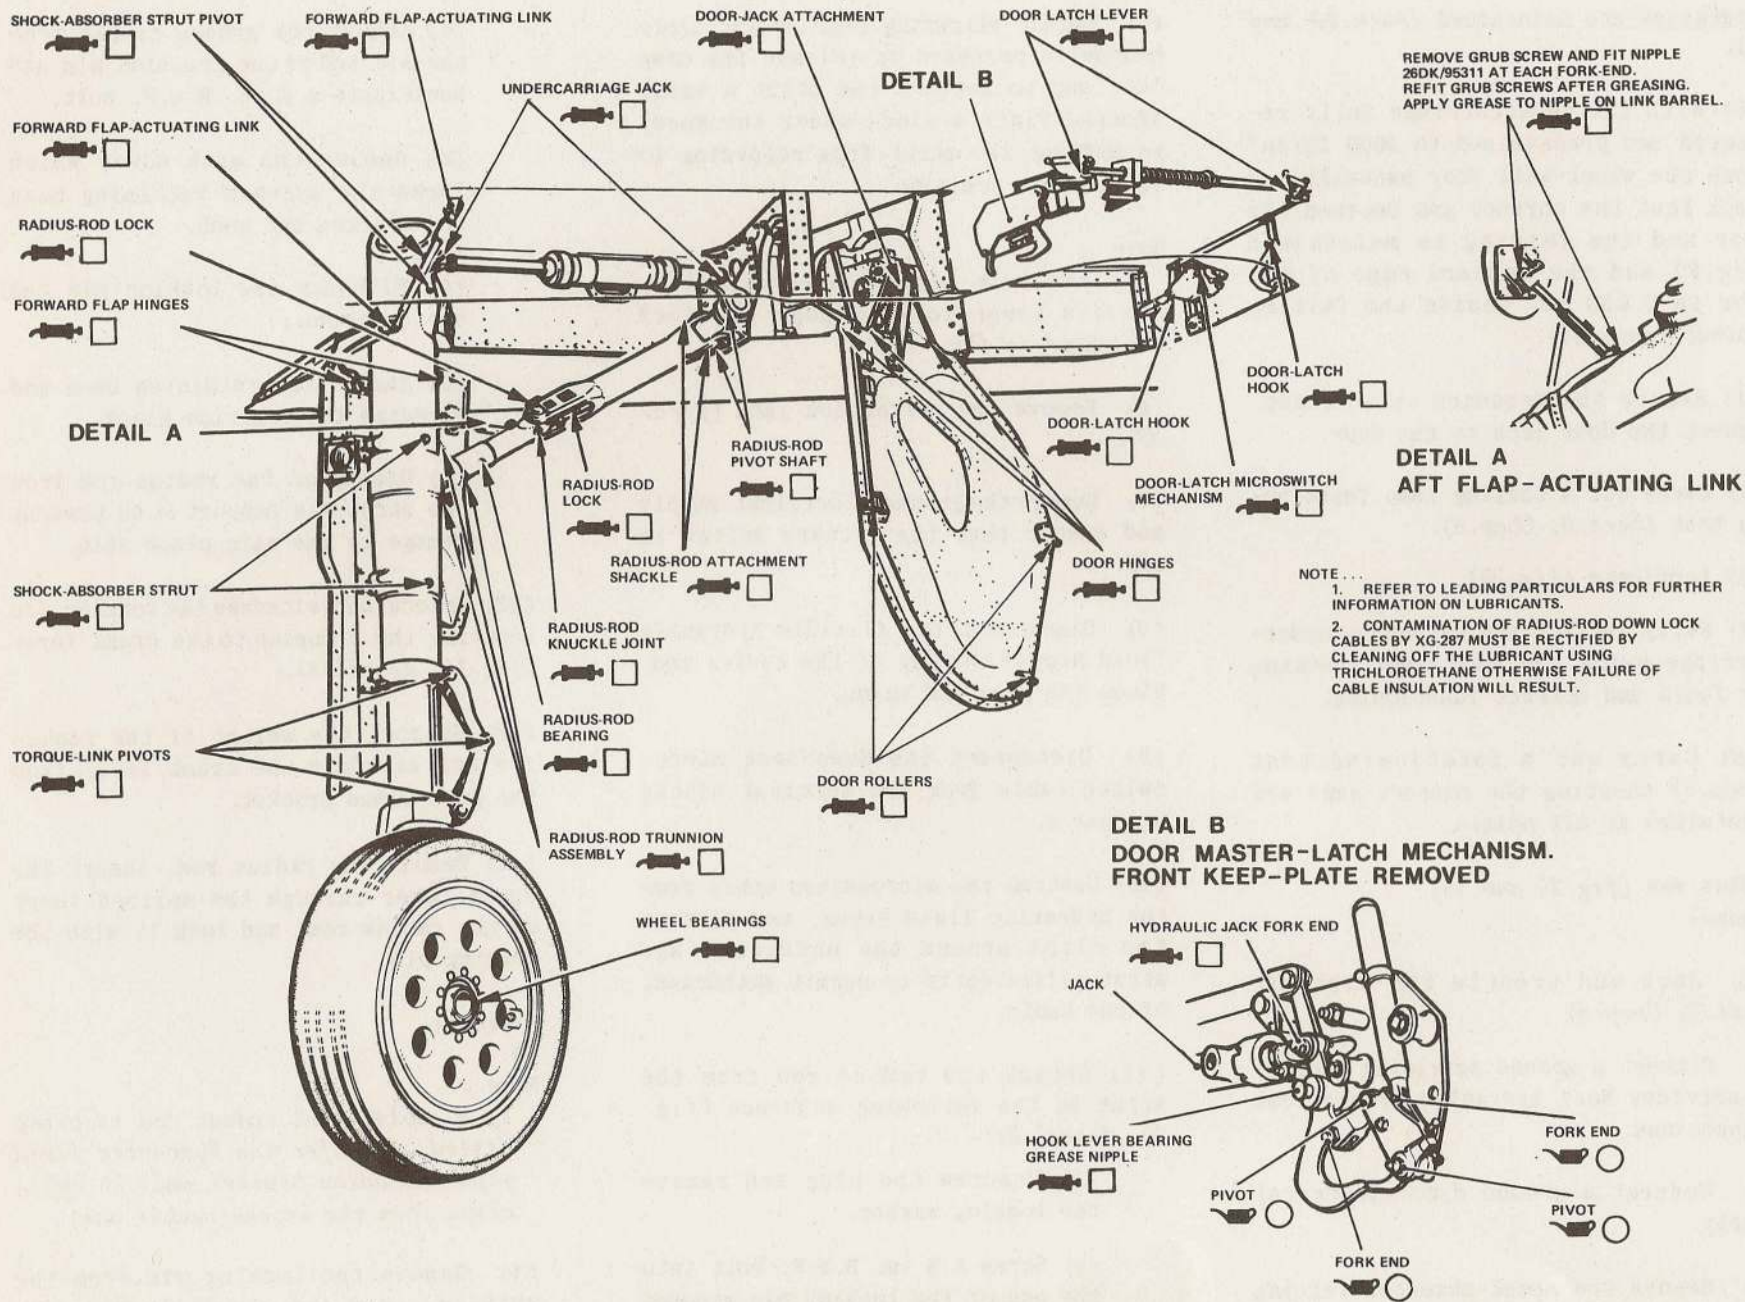

FIG. 20. MAIN UNDERCARRIAGE LUBRICATION POINTS
(31) Remove the sequence valve clamp. Connect the door jack to the door.
(32) Carry out a taxiing lamp functioning test (*Sect.6, Chap.8*).
(33) Lubricate (*fig.20*).
(34) Fully retract and extend the undercarriage using the hand pump checking for fouls and correct functioning.
(35) Carry out a functioning test (*Chap.6*) ensuring the correct gaps are maintained at all points.
(7) Connect the flexible hydraulic fluid pipe to the union at the top of the radius rod.
(8) Pass the microswitch cable through the strut clips and connect it to the terminal block then, with the cables pipes and clips correctly positioned on the radius rod and strut, lock the clips; trap the cables to the flexible pipes.
(9) Fit the retraction jack (*para.40*).
(10) Bleed the lock jack hydraulic fluid pipes (*Chap.6*).
(11) Select alighting gear DOWN and apply pressure to completely lower the strut. Check that the down-lock engages correctly and that the associated red light in the cockpit indicator is extinguished and the green light shows.
(12) Retract the undercarriage with the hand pump and ensure that the down-lock disengages, the cockpit indicator shows a red light, and the correct clearances (*para.29 and 30*) are maintained during retraction.
(13) Lubricate (*fig.20*).
(14) Fit the shock-absorber fairing (*para.42*).
(15) Carry out a functioning test (*Chap.6*).
(17) Retract the undercarriage slowly, using the hand pump, checking for fouls and correct functioning and ensuring the correct clearance is maintained at all points (*para. 30*). At the same time make a visual check, through the aperture for the unconnected fairing flap, that the flexible hydraulic fluid pipes are not trapped as the strut reaches the fully retracted position. If this occurs, slacken the unions on spar 4 and twist the flexible pipes to make them fit into the corner of the radius rod striker bracket, then tighten the unions and wire-lock them.
(18) Fit the shock-absorber fairing (*para. 42*).
(19) Lubricate (*fig. 20*).
(20) Carry out a functioning test (*Chap. 6*).